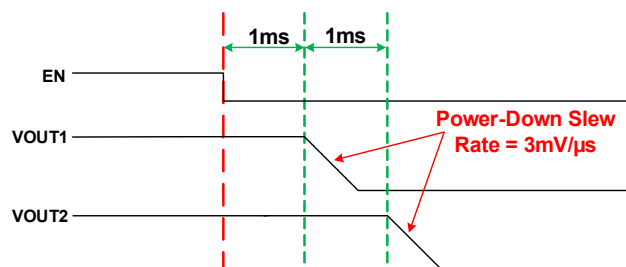

Figure 22. Auto Chip Power-Down Example
Note: The delay, BUCKx_SHUTDOWN_DLY[5:0] shown in Figure 22 as Dis_dlyx, is programmable from 0 to 63ms in 1ms steps.
Figure 22 provides an example of power-down configurability. The master chip enable pin (EN) transitions from logic 1 to 0. In the Figure 22 example, BUCK1_SHUTDOWN_DLY is set for 1ms and BUCK2_SHUTDOWN_DLY is set for 2ms.